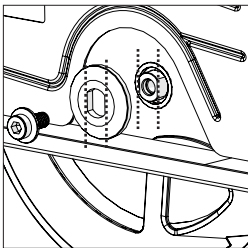

**Fig. 6**
- Install the (new) blade. Ensure that the direction of rotation arrows printed on the blade, match the direction of rotation arrows found on the machines upper and lower blade guards. **(Fig.6).**